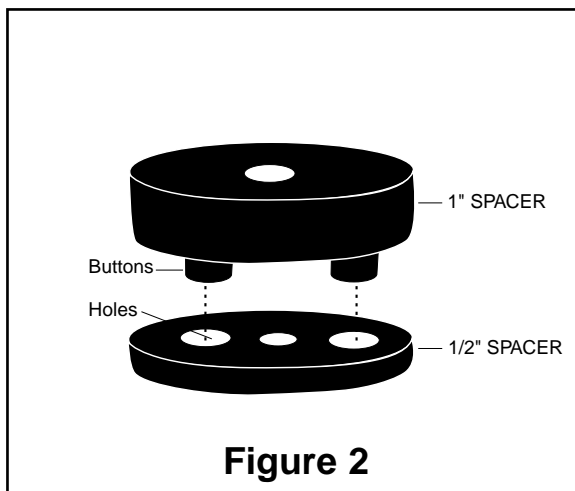

Figure 2
8. **73' and Newer Models except Monte Carlo SS** - These models will require the provided 1" spacer attached to the 1/2" spacer. Secure the two parts together by locking the buttons of the 1" spacer into the holes of the 1/2" spacer (Figure 2). **72' and Older Models** - Use the 1/2" spacer ONLY.
9. Push cylinder to the top of the coil and insert protector on top of lower spring seat (Figure 2).
If the vehicle has a rough and harsh ride it may be due to either too much pressure or not enough (fig. 2). Try different pressures to determine the best ride comfort.